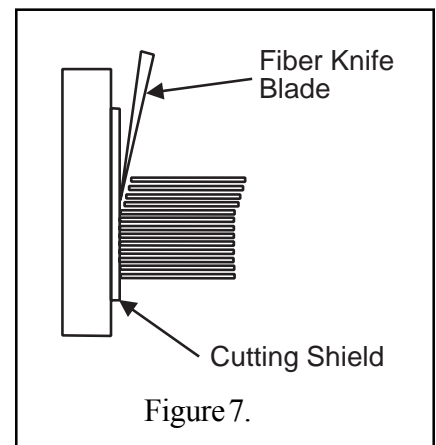

Figure 7.
- Place the blade against the cutting shield at a 10-15 degree angle; see Figure 7.